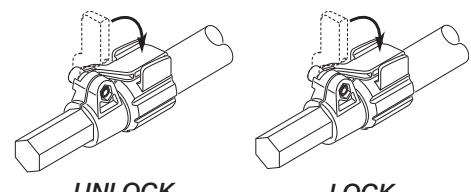

Figure 11 - Extending Telescopic Pole
- To extend the pole, unlock the clamping lever as shown in Figure 11. Pole will slide freely.
- To lock pole in position, tighten clamping lever as shown in Figure 11.